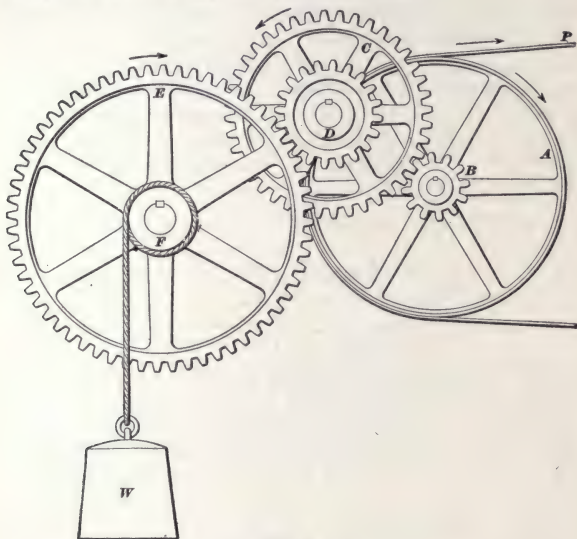

FIG. 19.
**39.** A combination of wheels and axles, as in Fig. 19, is called a train. The wheel in a train to which motion is imparted from a wheel on another shaft, by such means as a belt or gearing, is called the **driven wheel** or **follower**; the wheel that imparts the motion is called the **driver**.
**EXAMPLE.**—If the radius of the pulley *A*, Fig. 19, is 20 inches, of *C* 15 inches, and of *E* 24 inches, and the radius of the drum *F* is 4 inches, of the pinion *D* 5 inches, and of the pinion *B* 4 inches, how great a weight will a force of 1 pound applied at *P* raise?
**EXAMPLE.**—The radius of the pulley  $A$ , Fig. 19, is 40 inches and that of  $F$  is 12 inches. The number of teeth in  $B$  is 9, in  $C$  27, in  $D$  12, and in  $E$  36. If the weight to be lifted is 1,800 pounds, how great a force at  $P$  is it necessary to apply to the belt?